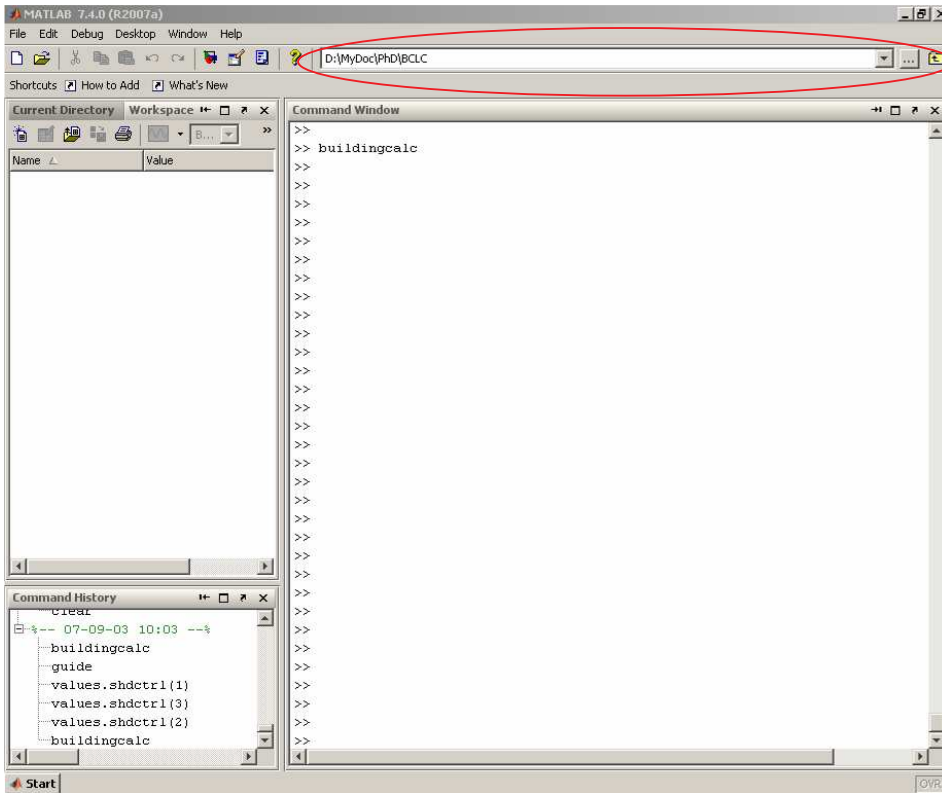
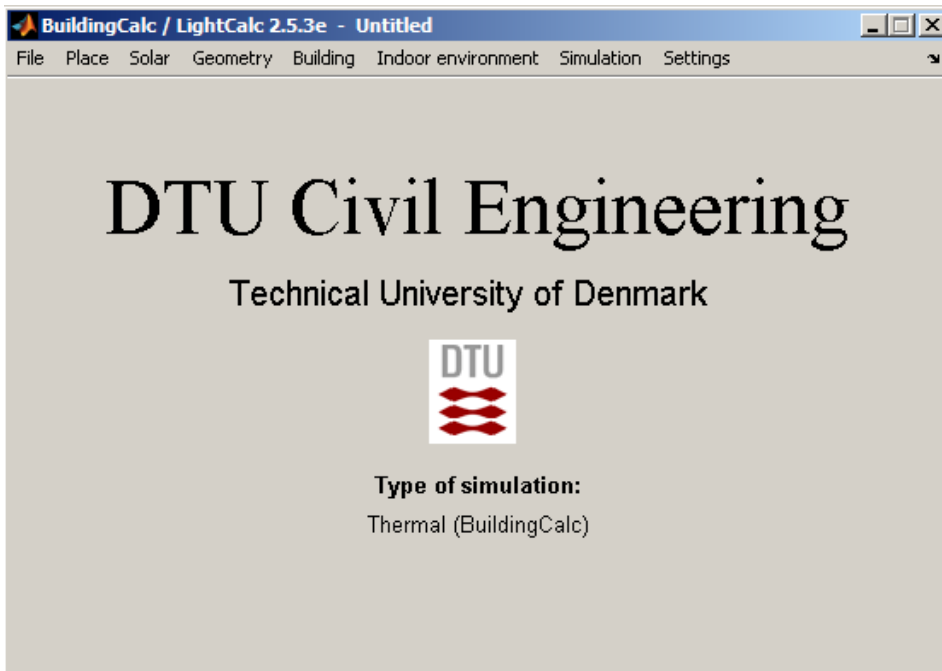

Figure 1. Starting BuildingCalc from Matlab.
Figure 2. Opening GUI when running BuildingCalc.m
2. Browse to your '*current directory*' where the program files are located. This will be your working directory (coloured circle on Figure 1). All files generated during the simulation will be located in your '*current directory*'.
3. Run the file BuildingCalc.m in the MATLAB workspace as shown in Figure 1. This opens the graphical user interface (GUI) shown in Figure 2.